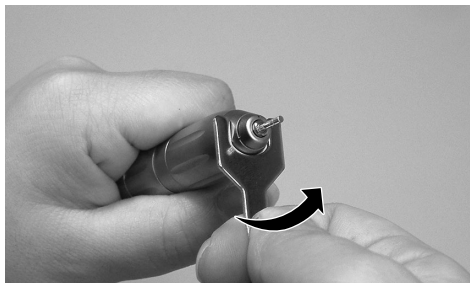

Fig.10
- ① Fit the cartridge wrench supplied with the handpiece to the flats of the handpiece nose. Turn the cartridge wrench as shown in (Fig.10) after it is loosened, turn the nose by fingers and remove from the handpiece.
- ② Before inserting a new cartridge, clean the head interior.
- ③ Finally, securely tighten the cartridge by turning it in the reverse direction to removal.